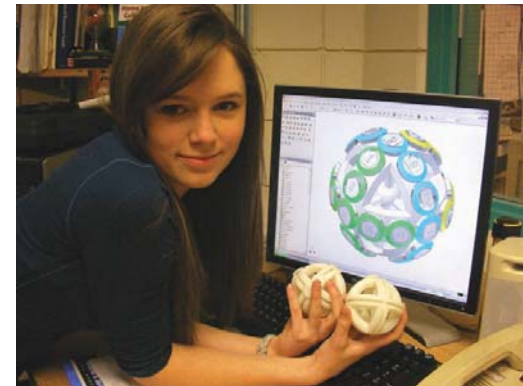

Figure 3-37. A student with her CAD file and 3D model of a three-dimensional puzzle she designed for the blind.
Specific 3D printing systems are often known by their output. For example, 3D printers that are used to create prototypes quickly during the design stage of product development are called **rapid prototyping (RP) systems**. See **Figure 3-37**. By using prototypes in real-life field tests, designers can better evaluate a product's strengths and weaknesses and avoid costly mistakes.